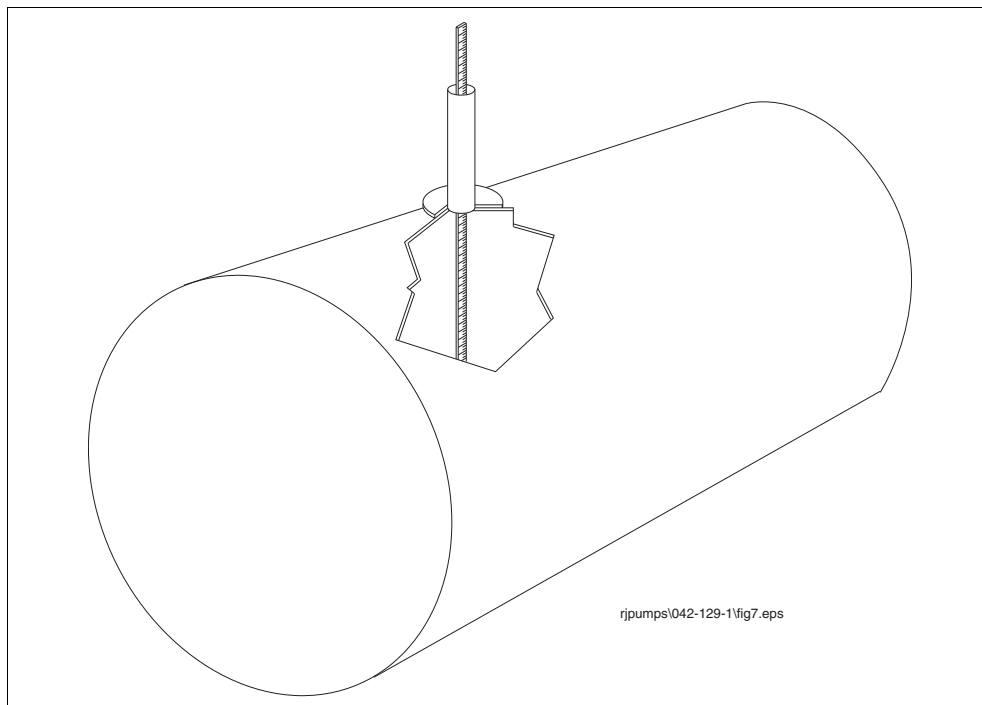

Figure 9. Measuring tank
2. Measure the distance from the bottom of the tank to the top of the 4 inch riser pipe as shown in Figure 9. Confirm the installed length of the pump maintains adequate clearance from the pump inlet to the bottom of the tank (see Figure 4).